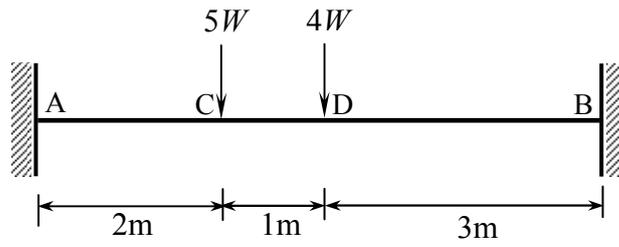

Figure 2.
- (b) Calculate the collapse load in terms of M_p for the fixed beam shown in Figure 2. **07**